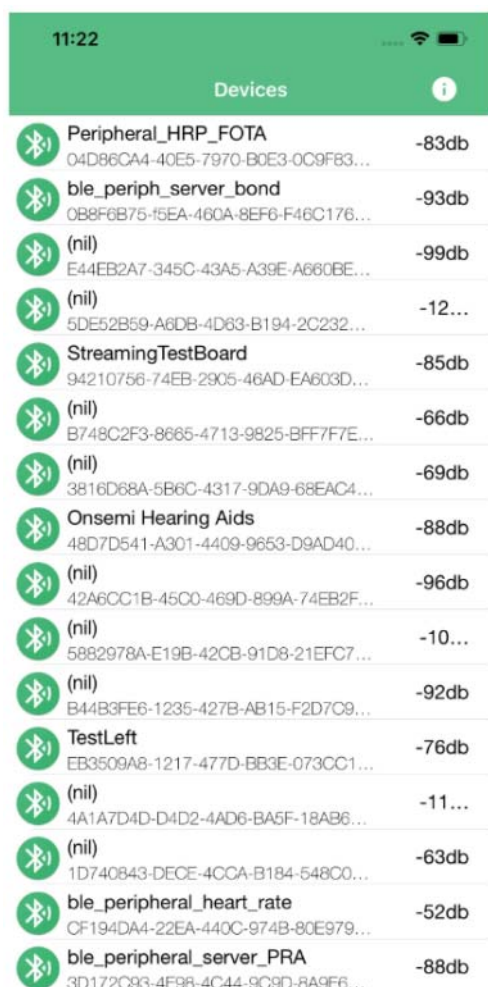

Figure 20. RSL10 FOTA Mobile Application Showing Bluetooth Low Energy Devices
2. Launch the application and select the FOTA enabled firmware device from the list of devices, as shown below in Figure 20.